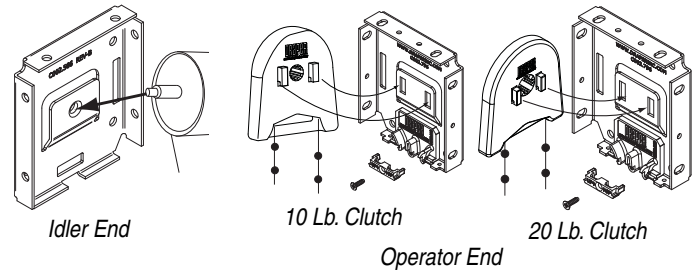

Figure 6
- ⑤ Place spring-loaded pin into idler endcap, depress pin by pushing shade roller toward endcap, slip notches on operator end into other endcap, then press down to lock in place (see Fig. 6).
⑦ Set upper and lower travel limits by installing stop balls to bead chain (crimp closed using pliers) (see Fig. 6).